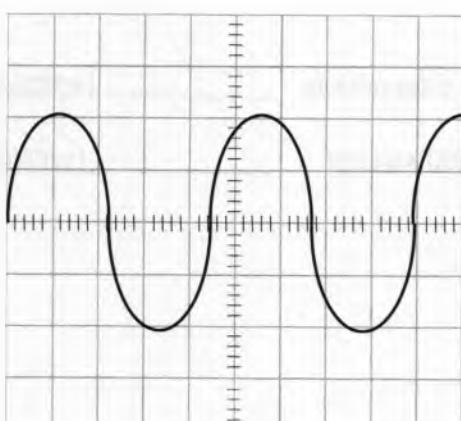

Figure 17
14. Figures 17 and 18 show the same signal displayed on two CROs. Which CRO is better set-up to measure the signal's period? Explain why.